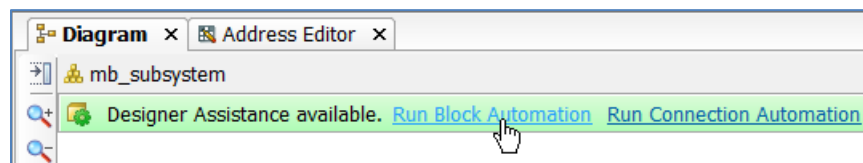

Figure 94: Run Block Automation
1. Click Run Block Automation, displayed in Figure 94.